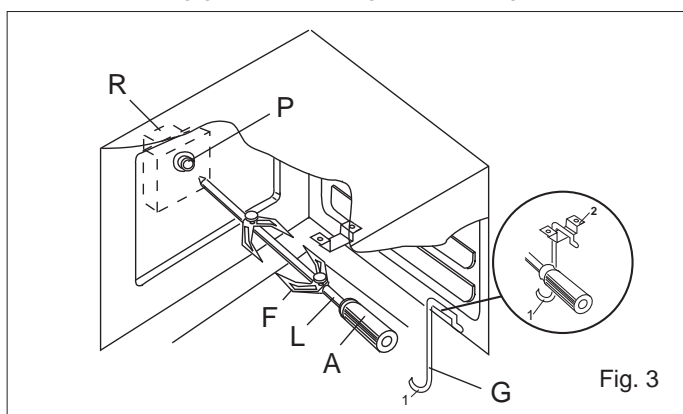

Fig. 3
- Put the food in spit **L** (see fig. 3), paying attention to block it within the two forks **F** and to balance it, in order to avoid any unnecessary effort in motor **R** (fig 3).
- To remove the spit, operate in the opposite direction using knob **A** and protecting glove in isolating wool (see fig. 3).